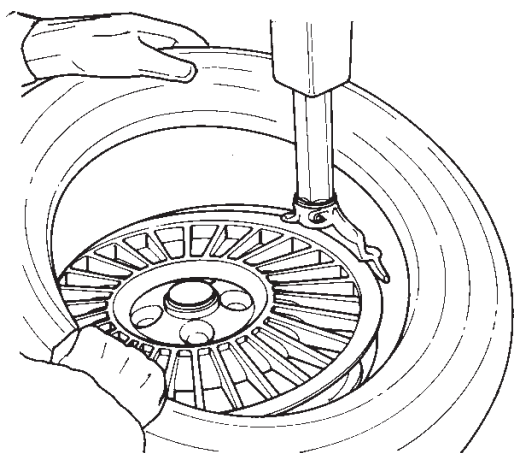

Fig. 4-10
B. Lock the rim to the turntable and rotate it so that the valve is at the 2 o'clock position. Place the tire to be mounted on the rim. Swing the mount/demount arm in so that the mount/demount head is in the working position. (Fig. 4-10) Position the lower bead on top of the mount/demount head and UNDER the mounting finger of the mount/demount head (Fig. 4-10). Turn the wheel clockwise (right pedal down) while simultaneously pushing the tire down into the drop center, opposite to the mount/demount head.